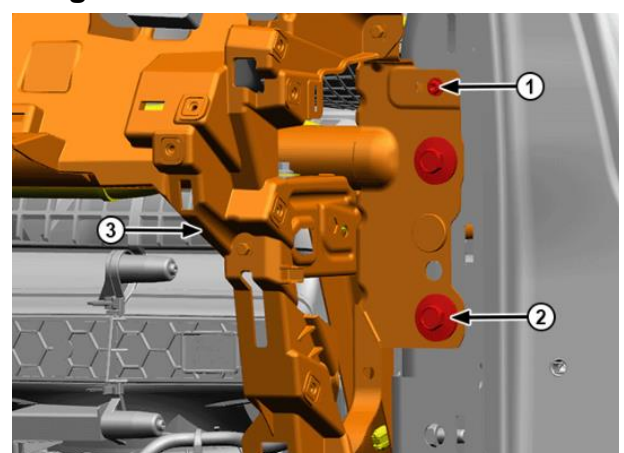

Figure 7 – CCB to Cowl Side Bolts and Fastener (Right side shown, left side similar.)
- Remove the left bolts (2) and side fastener (1) (Figure 7).
26. Remove the right bolts and side fasteners (Figure 7).